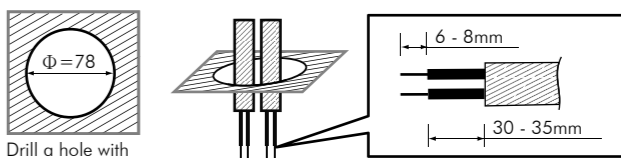

FIG.9
- 3.4.2.1 To install the detector, please drill a hole with diameter of 78mm on ceiling board and keep the power cable outside. Please strip off 6 - 8mm of cable sheathing for wiring (See FIG.9).